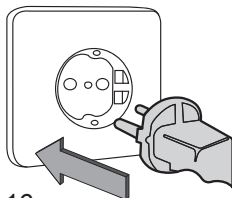

Fig.16
- > Branchez la prise (Fig.16). Alimentation: 220V-240V ~ 50Hz.